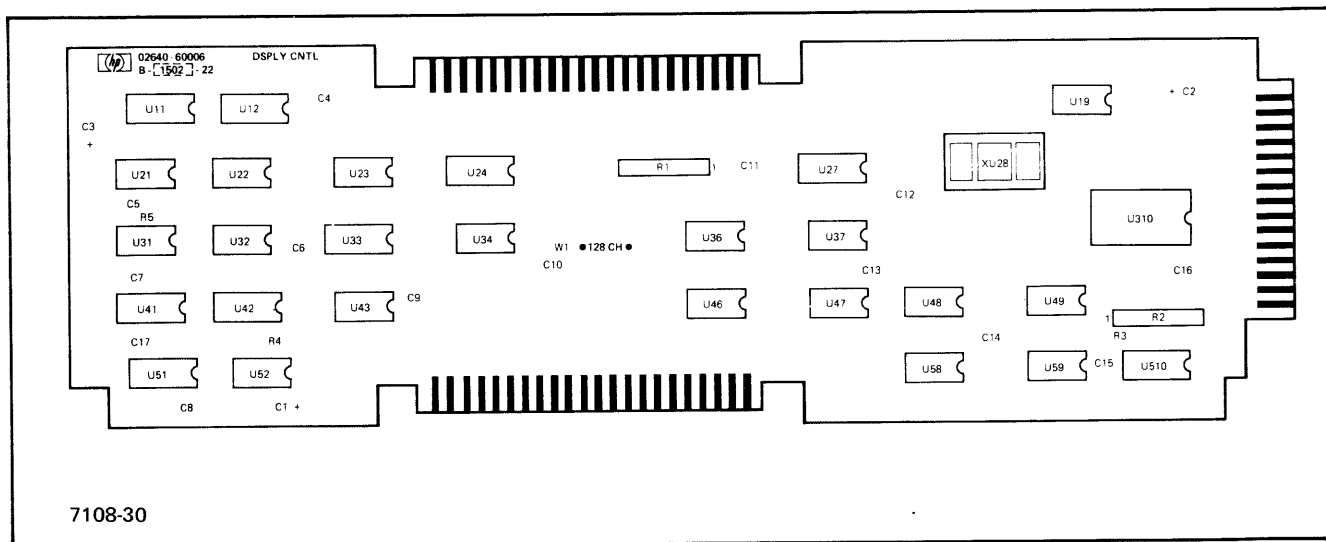

Figure 1-6. Display Control PCA Component Locations
- d. Using figure 1-6 as a guide, locate 128 CH W1 jumper sockets and solder in a jumper between W1 sockets.
- e. Using figure 1-6 as a guide, locate upper case ROM U310 and vacant lower case ROM socket XU28.